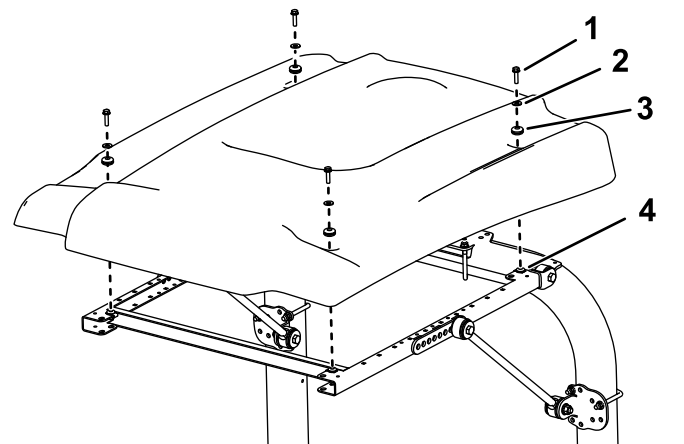

Figure 32
15. While aligning the mounting holes, position the sunshade onto the frame as shown in Figure 32.
16. Loosely mount each corner of the sunshade to the frame with a flange-head bolt (5/16 x 1-1/4 inches), a small washer, and a grommet (Figure 32).